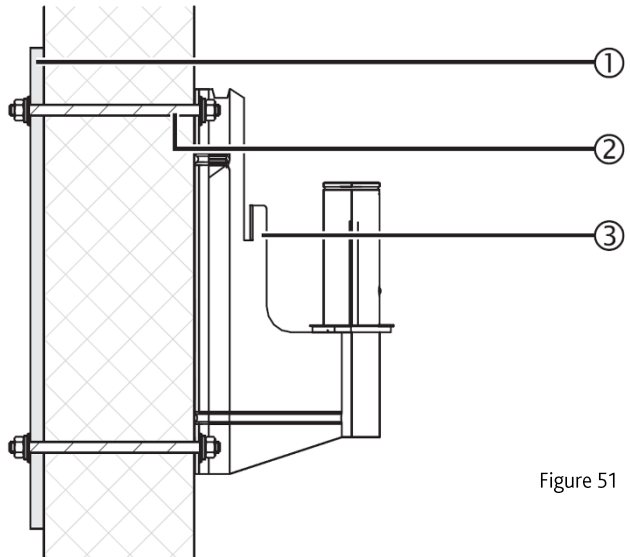

Figure 51
7.3.1 - Using a counter plate with continuous threaded bolts (see figure 51)